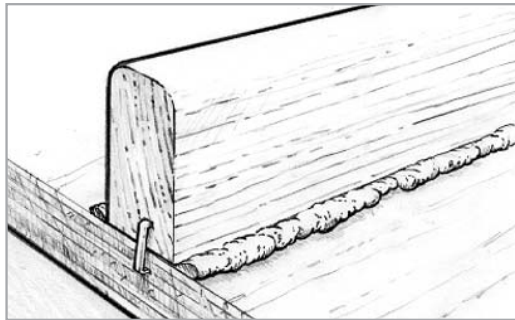

Figure 8-10 Clamp components in place before the epoxy gels.
3. Clamp components. Attach clamps as necessary to hold the components in place. Use just enough clamping pressure to squeeze a small amount of the epoxy mixture from the joint, indicating that the epoxy is making good contact with both mating surfaces (*Figure 8-10*). Avoid using too much clamping pressure, which can squeeze all of the epoxy mixture out of the joint.